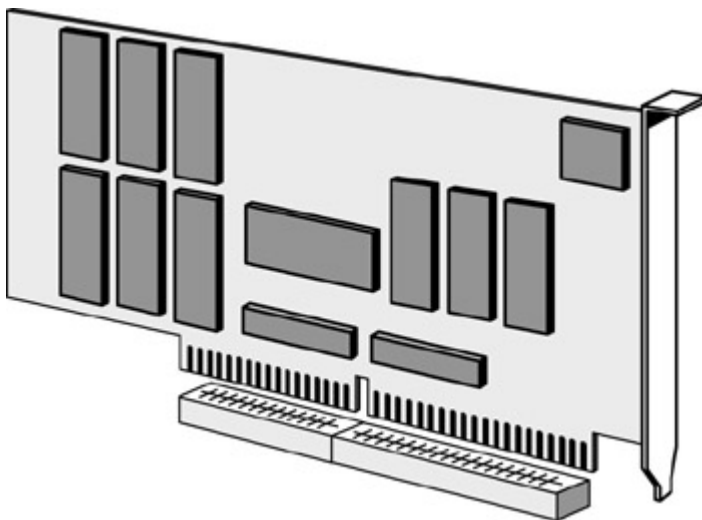

Figure 6-4: The PCI card and slot.
- | **Peripheral Component Interconnect (PCI) bus:** Introduced with the Pentium PC, PCI is a local bus architecture that supports either a 32- or 64-bit bus, which allows it to be used with both 486 and Pentium computers. The PCI bus is also processor independent because of a special bridging circuit contained on PCI boards. Its bus speed is 33 MHz, giving it much higher throughput than earlier cards. The PCI architecture and expansion slot, shown in Figure 6-4, also support ISA and EISA cards. PCI cards are also PnP, which means they automatically configure themselves to the appropriate IRQ, DMA, and I/O port addresses.